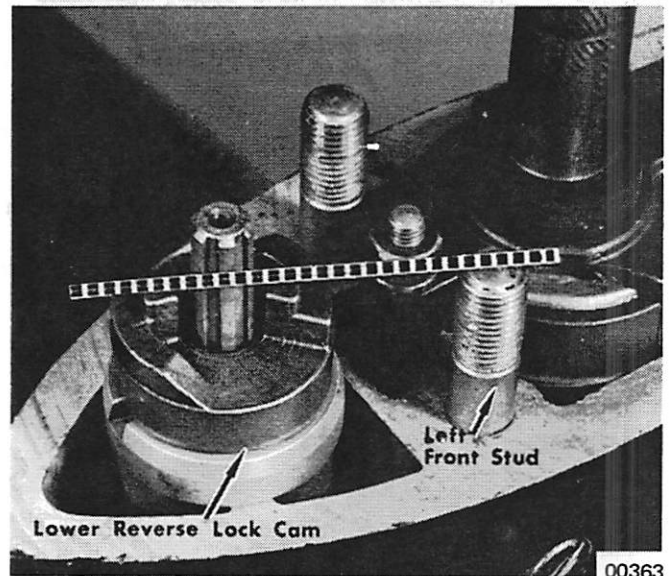

Figure 11. Installing Lower Reverse Lock Cam
*NOTE: Shift shaft must be in forward gear position, and the lower reverse lock cam installed with the 2 tabs aligned with left front stud. (Figure 11)*